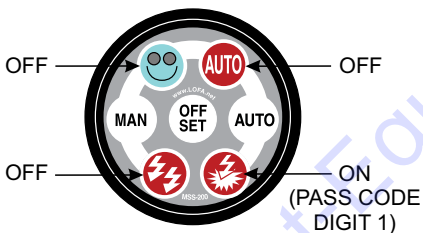

Figure 35. Pass Code Digit 1
3. Press the **OFF/SET** button (Figure 35) this will enter the value zero for pass code digit 1 into the controller.